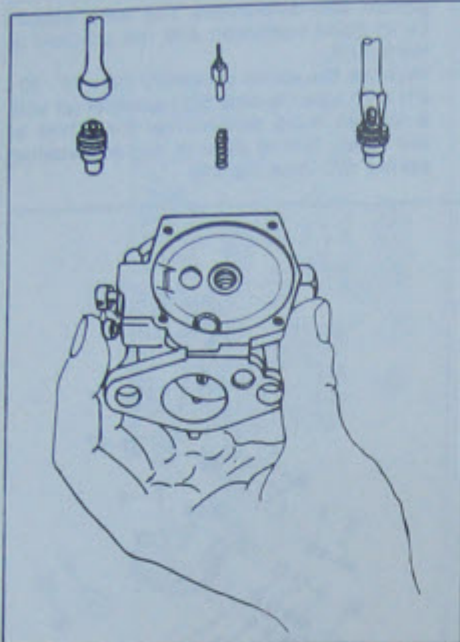

Fig. 24 Removing needle assy
- Remove the valve assembly (18 - 19 - 20 - 21) with a hexagonal 5/32 spanner (or with a slotted head screwdriver for valves of old type), taking care to extract washer, spring etc. (see fig. 24).